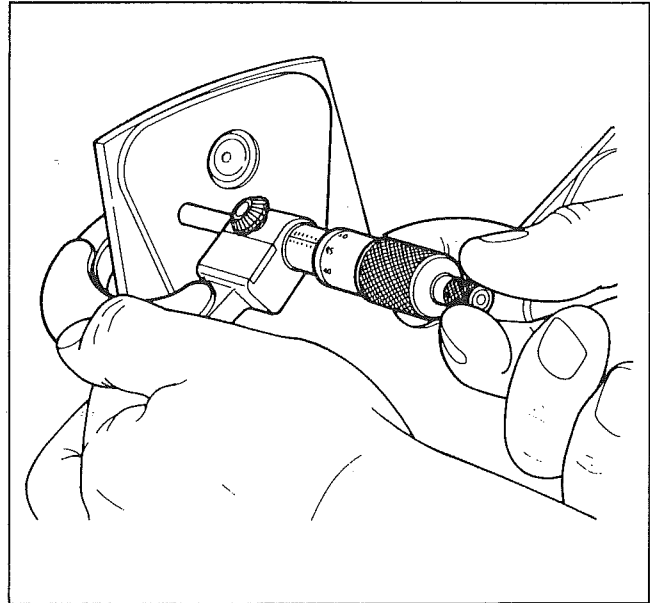

Figure 9-4. Clutch Disc Thickness Check
1. Inspect the friction material for signs of excessive wear or heat damage. Disc thickness should be checked with calipers or an outside micrometer (Fig. 9-4). Minimum disc thickness: